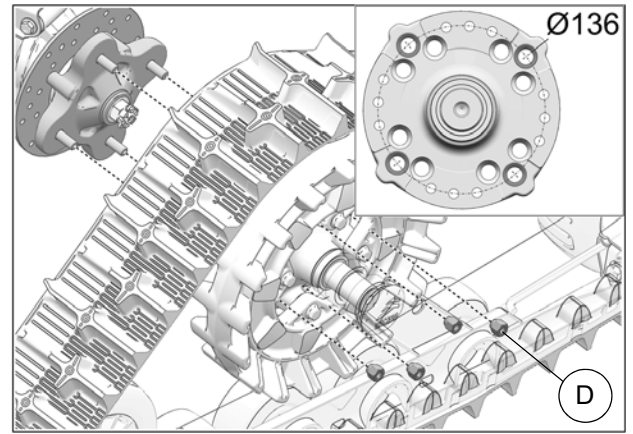

Fig. 12
11. Secure undercarriage to rear hub using the lug nuts (D) provided. Use bolt circle Ø136 mm. See Fig. 12